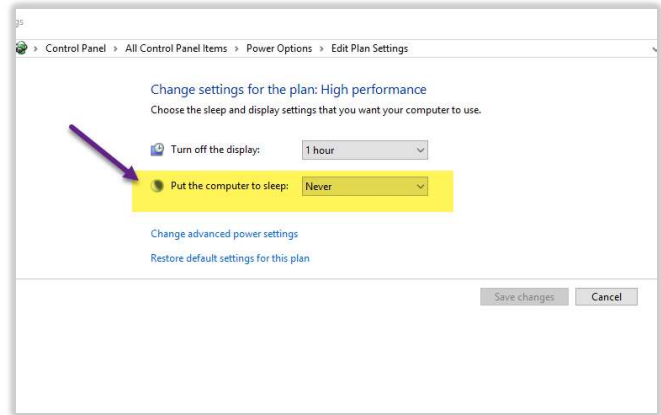

Figure 29
- a. Go to the Control Panel *Power Options* settings. Set the computer to *never* goes to sleep. *Figure 29*